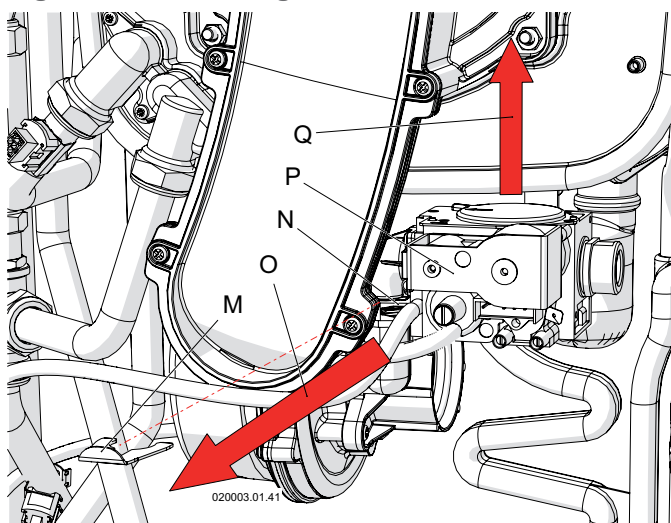

Figure 6-4 - Removing the gas valve
- 16 - remove the clamping spring "M" from the seat "N" releasing the valve "P" (See figure 6-4);
19. - remount the gas valve (see figure 6-4, detail “P”), making sure to reposition the spring “M”.